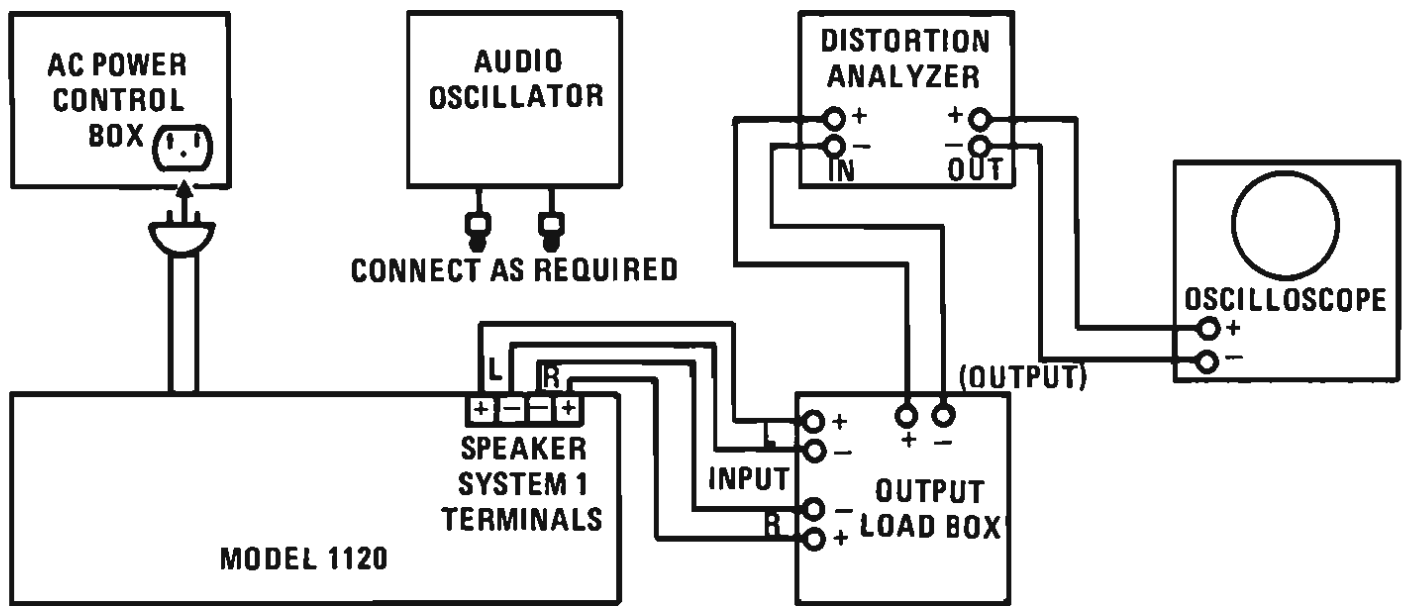

Figure 5. Test Equipment Set-up
Above items are assembled per Figure 5 or as directed in Test or Alignment Procedures
- All tests are performed with the unit under test and the test equipment connected as shown in Figure 5. Except for the IDLING POWER test, all tests are performed with 120 VAC line voltage applied to the unit. Unless otherwise specified in the procedure, the test equipment controls will be set in the following position during each test.
Return test equipment to set-up shown in Figure 5.